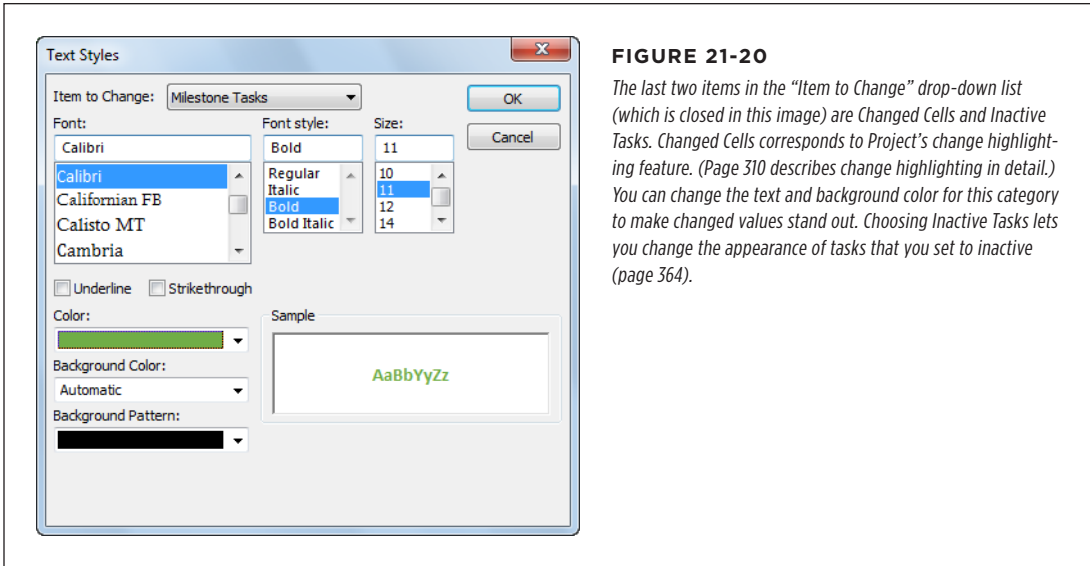

FIGURE 21-20
3. In the “Item to Change” drop-down list, choose the category you want to reformat, as shown in Figure 21-20.